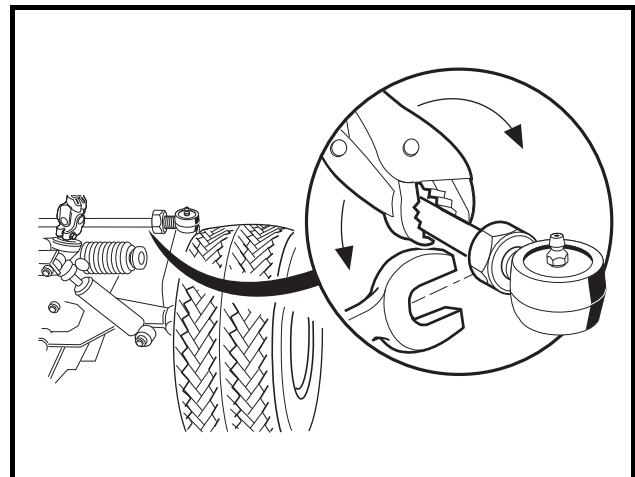

Figure 7-18 Adjust Toe-In
6. If adjustment is necessary, loosen the jam nut on each tie rod ball joint and rotate the tie rod to increase or decrease toe-in (**Figure 7-18, Page 7-16**). **See following CAUTION.**